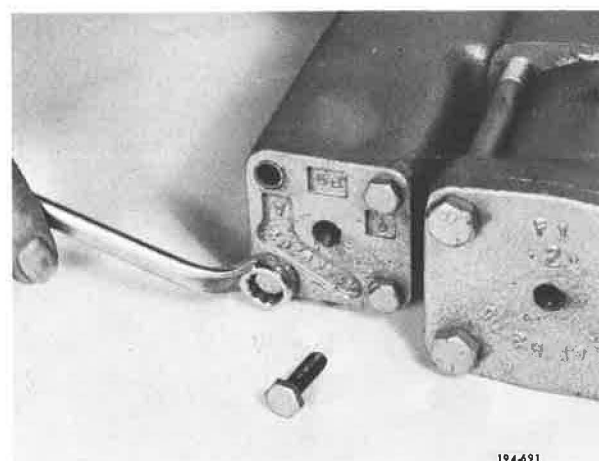

Figure 5-888. Installing Capscrews
22. Install reverse shift cover capscrews, and tighten to recommended torque. Refer to Torque and Tolerance Table, Item 14. See Figure 5-888.